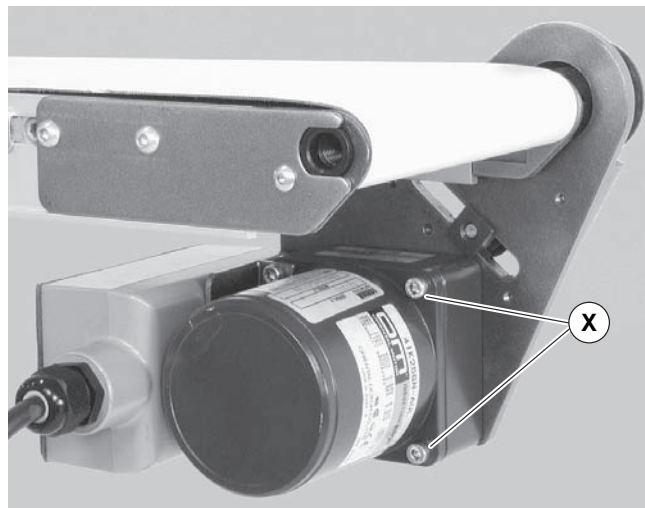

Figure 22
7. Remove four screws (Figure 22, item X) and detach gearmotor.